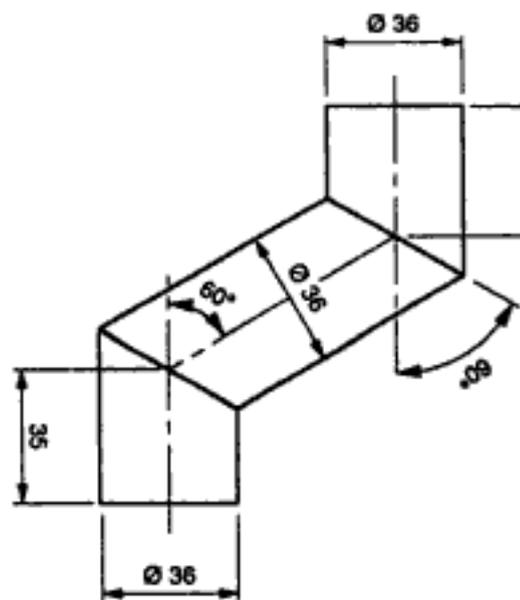

Fig 6.45
- 3 Two parallel horizontal pipes are connected, as shown in fig 6.45. Obtain the patterns for the three pieces.